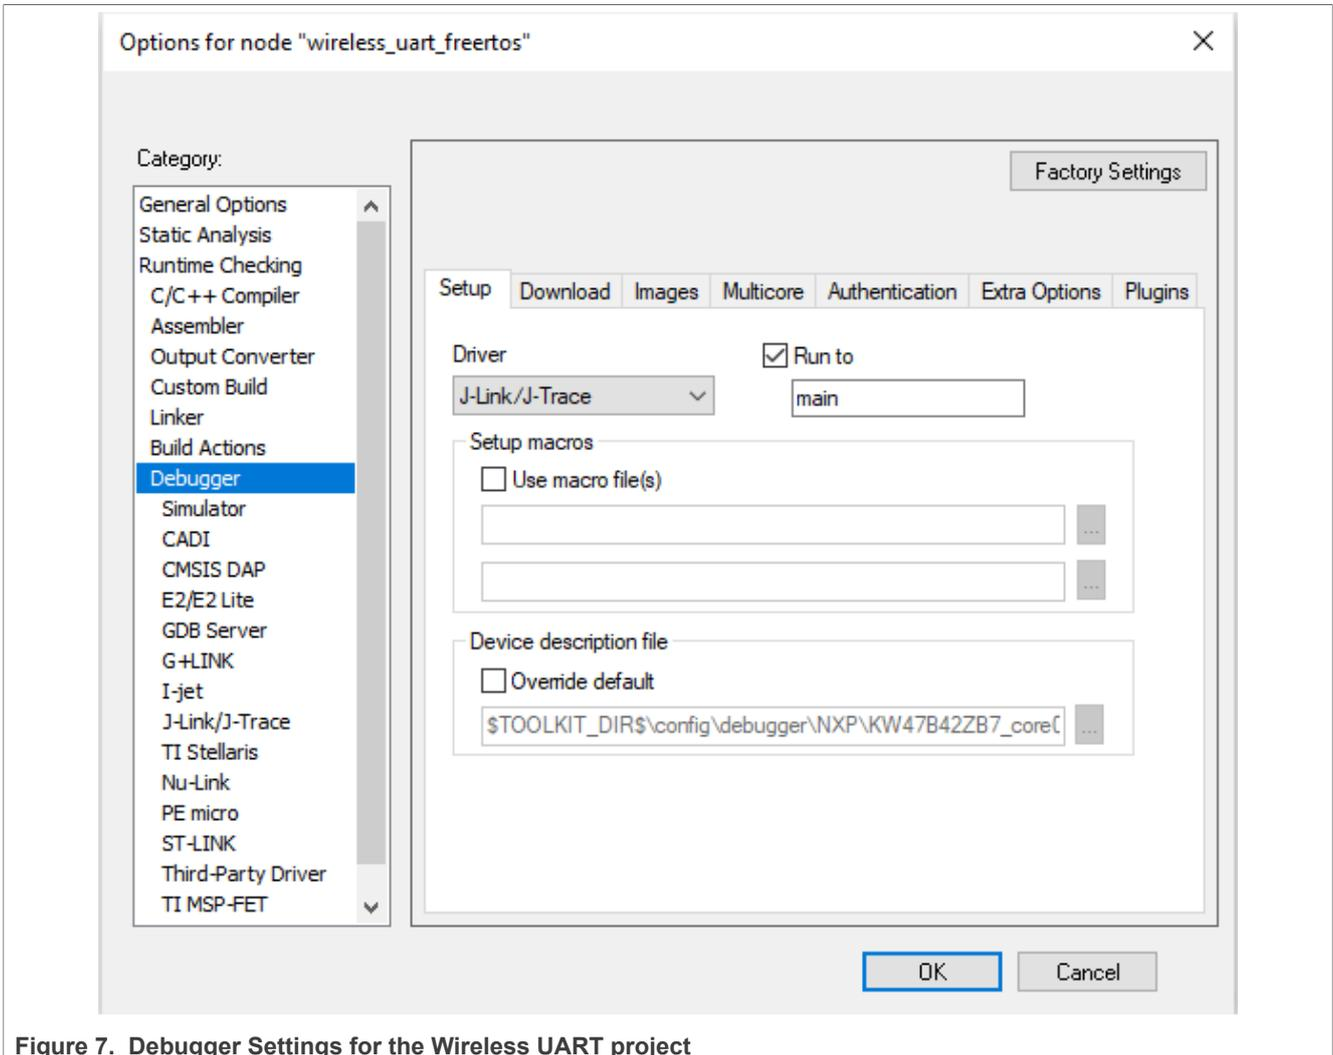

Figure 7. Debugger Settings for the Wireless UART project
5. Make the appropriate debugger settings in the project options window, as seen in Figure 7.